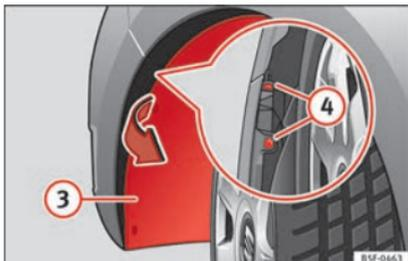

Fig. 215 Fog light: access to the connector and to the light bulb holder.
- Pull the wheel housing (3) » Fig. 215 access the 2 hidden screws (4) » Fig. 215 of the bumper.